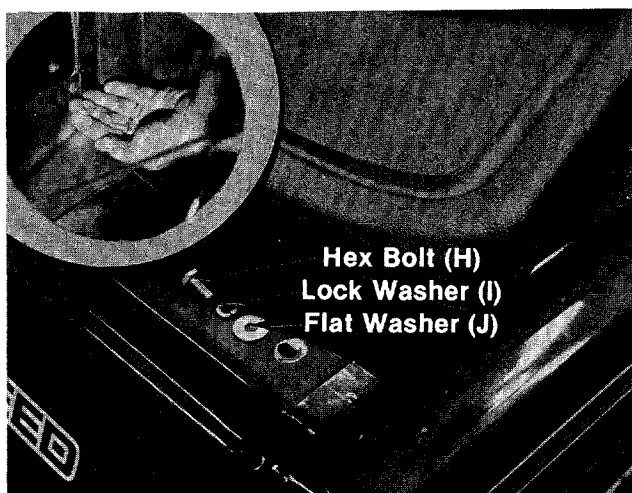

**FIGURE 5. STEERING WHEEL ASSEMBLY**
8. Place the steering wheel on the tubing assembly and fasten with belleville washer (E) and hex lock nut (F). See figure 5.
9. Place the steering wheel cap (G) on by hand. See figure 5.